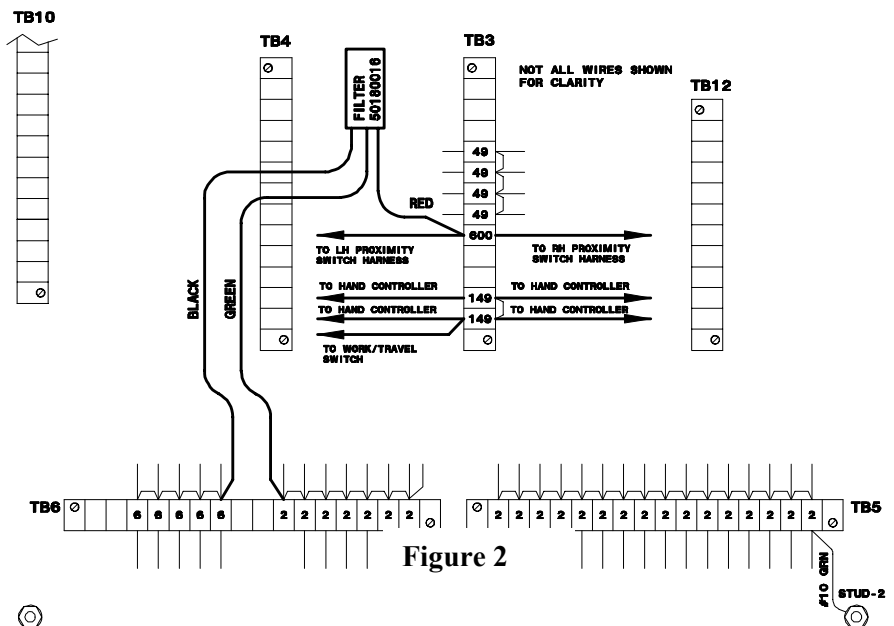

Figure 2
1. Refer to Figure 2. Remove the jumper from TB3 connecting the two #49 wires from the Left and Right Proximity Switch Harnesses to the rest of the #49 wires. There is one #49 wire for each harness. Both proximity switch wires should be connected together, but not to any other wires. There should be continuity between the proximity switch wires and Terminal 1 of the proximity switch connectors. Check with a continuity tester to verify you have isolated the correct wires. Renumber these wires #600.